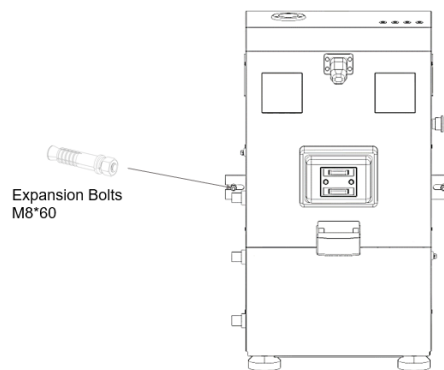

FIG.8
5. Install the device to the wall using the expansion bolts as shown in FIG. 8.